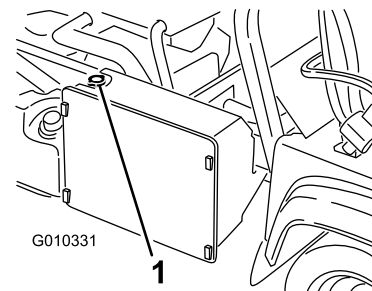

Figure 52
3. Remove the radiator cap (Figure 52).
4. Remove the reserve-tank cap (Figure 52).
7. Top off the radiator and install the cap (Figure 52).